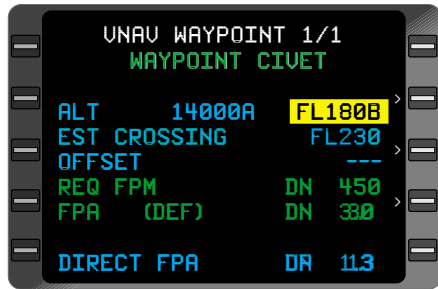

Figure 3-131
- VNAV** Key - DEPRESS to display **VNAV WAYPOINT** Page for selected waypoint. (Figure 3-131)